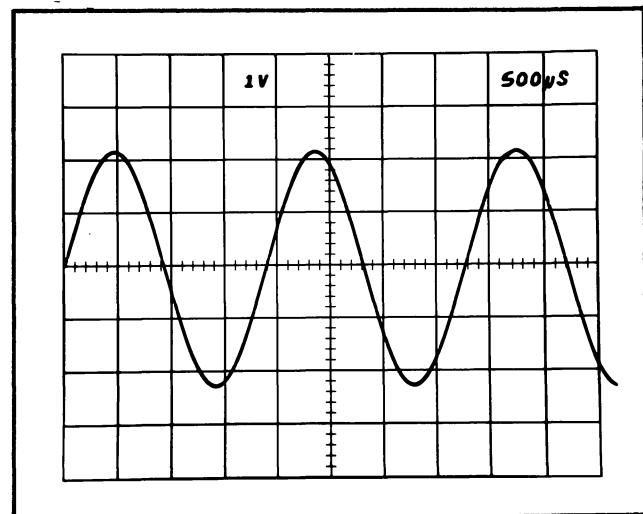

Fig. 3-38. Typical readout display where only channel 1 of the Right Vertical and B Horizontal units are displayed.
**Display Format.** Up to eight words of readout information can be displayed on the Type 7504 CRT. The position of each word is fixed and is directly related to the plug-in unit from which it originated. Fig. 3-36 shows the area of the graticule where the readout from each plug-in unit is displayed. Notice that channel 1 of each plug-in unit is displayed within the top division of the CRT and channel 2 is displayed directly below within the bottom division. Fig. 3-38 shows a typical display where only channel 1 of the Right Vertical unit and the B Horizontal unit are selected for display.